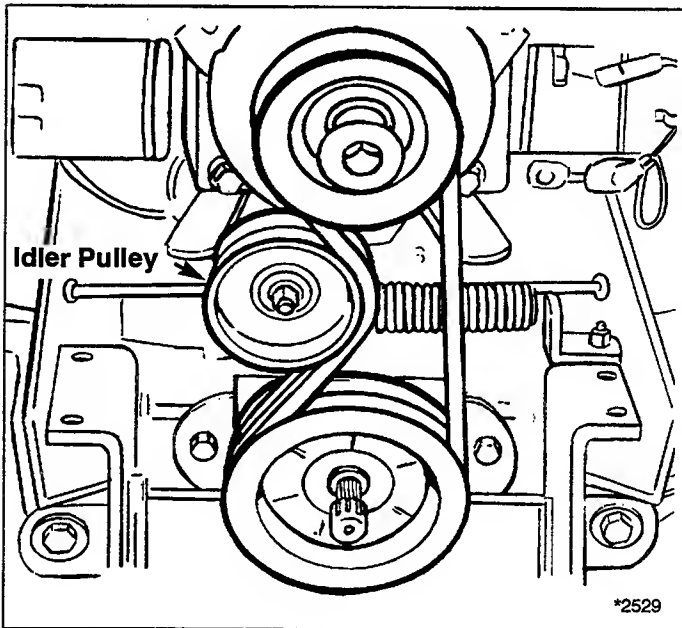

Figure 32. Tractor PTO Belts
2. See figure 32. Move the idler pulley to relieve belt tension.